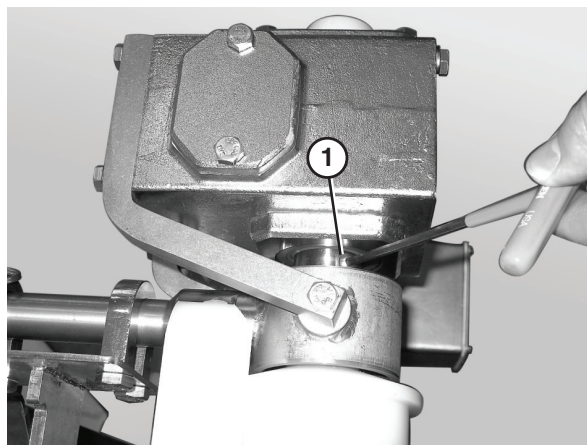

Figure 68
1. Loosen the button head screws (**Figure 68, item 1**) that connect the gearmotor to the drive spindle.